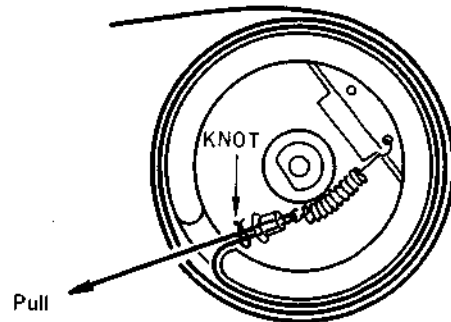

Fig. 2-11-4 Dial Cord Finish Point Detail
- (i) Make three clockwise turns around the drive drum and pass the cord through the slot of the drive drum. Hook the cord to the spring, using an eyelet, as shown in Fig. 2-11-4.
- (j) Pull the cord to give it a tension and squeeze the eyelet. Make a knob to keep the spring under tension. See Fig. 2-11-4.